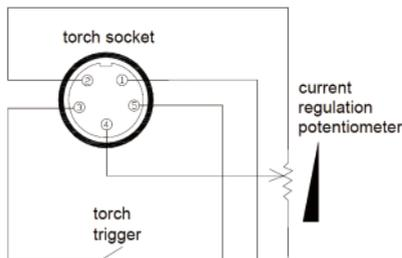

Fig 28
- Connect the pedal remoter to the welder front panel pedal controller interface through dedicated cable. See Fig 28